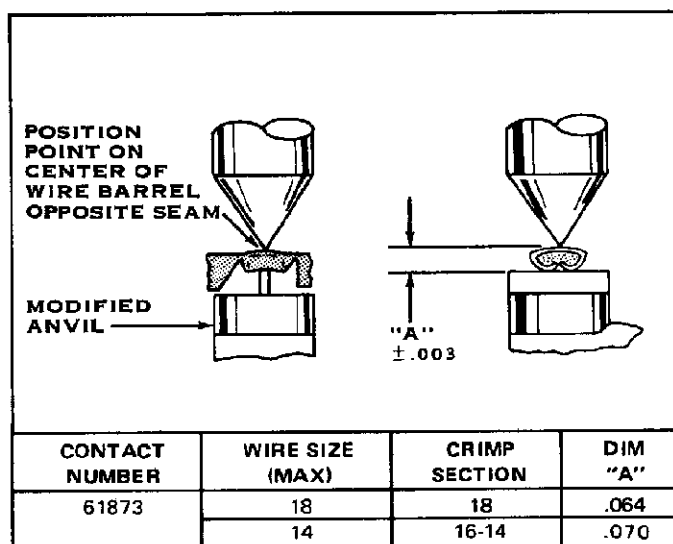

FIGURE II-2
This inspection incorporates the use of a micrometer with a modified anvil as shown in Figure II-2. AMP does not manufacture or market these gages. We recommend the Crimp Height Comparator RS-10195-L which can be purchased from:
1. Select one of each of the contacts and the maximum wire size for each from the chart in Figure II-2.
3. Using a Crimp Height Comparator, measure each wire barrel crimp height as shown in Figure II-2. If the crimp height conforms to that shown in the chart the tool is considered dimensionally correct. If not, return the tool to AMP for evaluation and repair. (See Paragraph II-3.)
1. Determine the maximum wire size and the applicable contact for the tool. See Figure II-2.